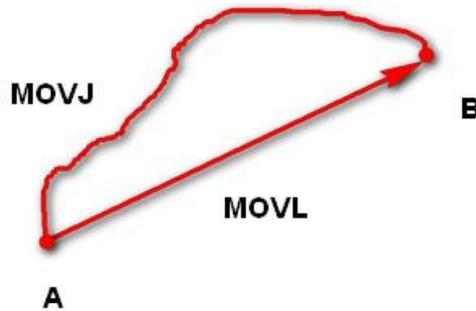

Figure 2.7 MOVL/MOVJ mode
- **MOVJ:** Joint movement. From point A to point B, each joint will run from initial angle to its target angle, regardless of the trajectory, as shown in Figure 2.7.
- **MOVL:** Rectilinear movement. The joints will perform a straight line trajectory from point A to point B, as shown in Figure 2.7.